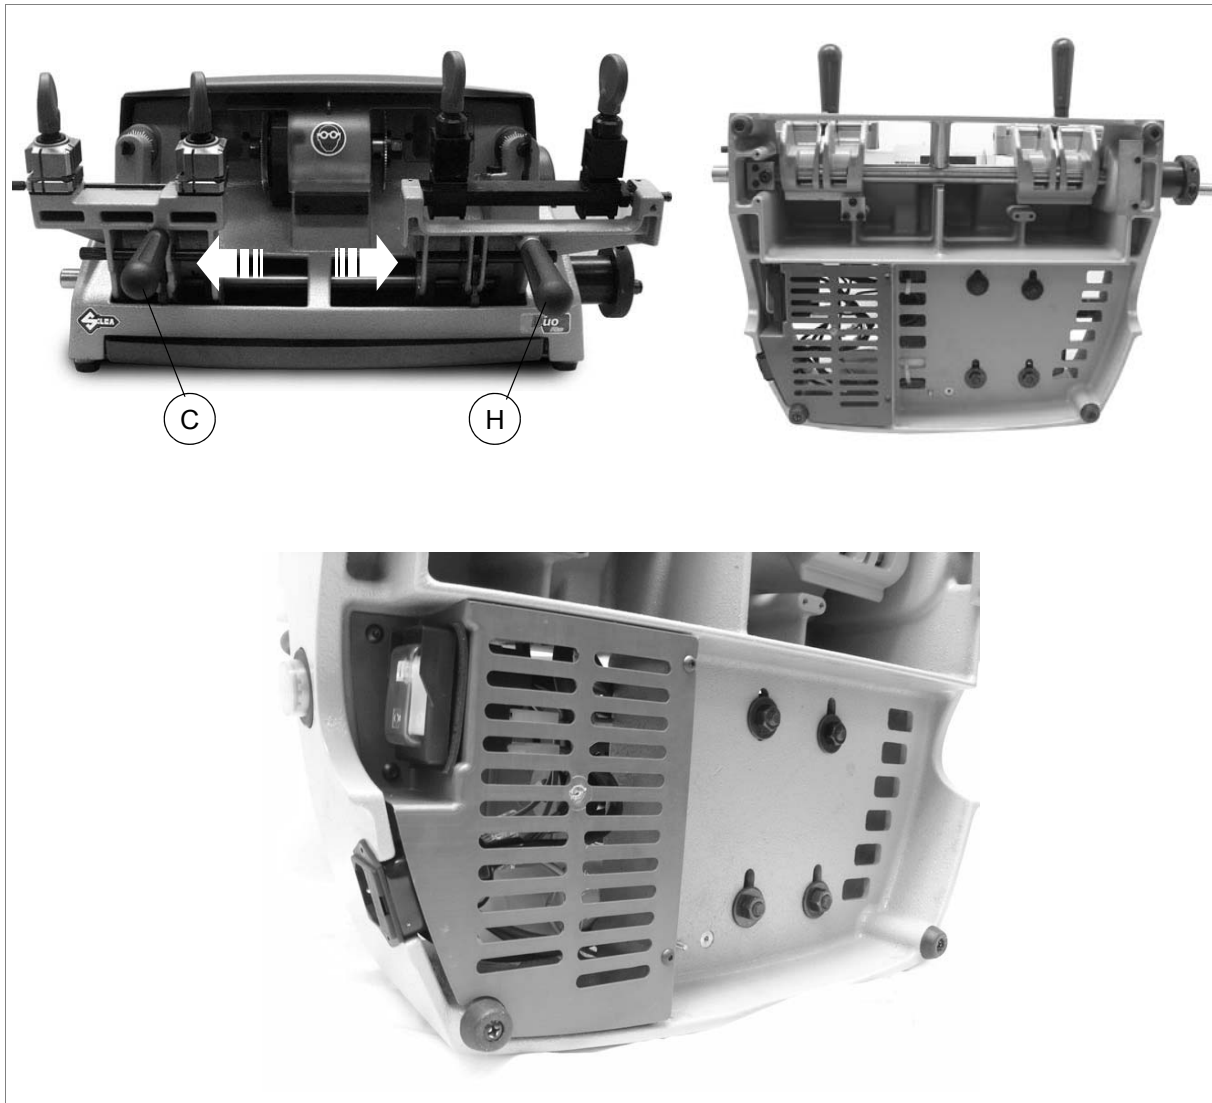

Fig. 63
- 4) Turn the machine onto its back firmly holding it on handles (C and H) (fig. 63).